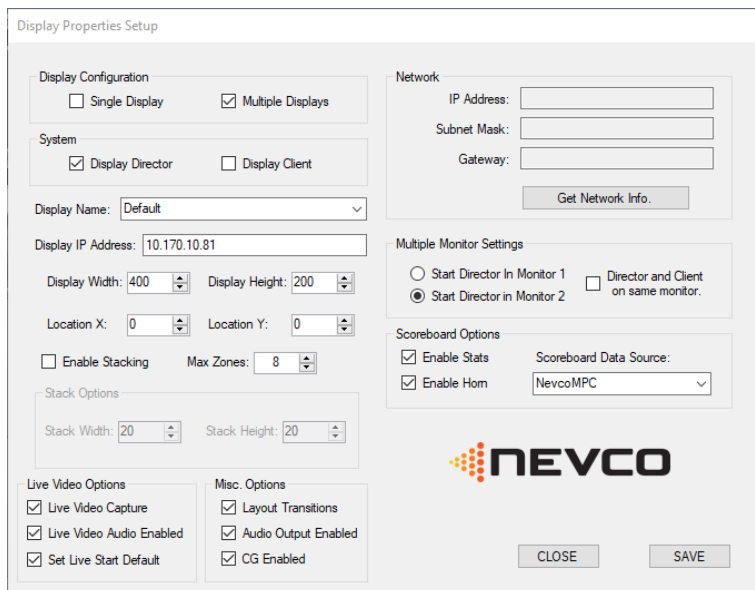

Figure 10-7
- iii. It is possible that virtual scoreboards are disabled. To enable, open Display Director, go to the main menu and find “Tools,” from here select “Edit Display Properties.” Now the window in Figure 10-7 will open. In this window, there is a section labeled “Scoreboard Options,” Underneath, Enable Stats must be checked and Scoreboard Data Source must be set to Nevco MPC; other virtual scoring methods will still work. For a multiple system, this also should be checked and changed if incorrect on the client computer. To do this, go to the panel in the bottom left of the client computer and click “PROPERTIES”. This will pull up a dialog similar to Figure 10-7. Now, virtual scoring should be enabled.